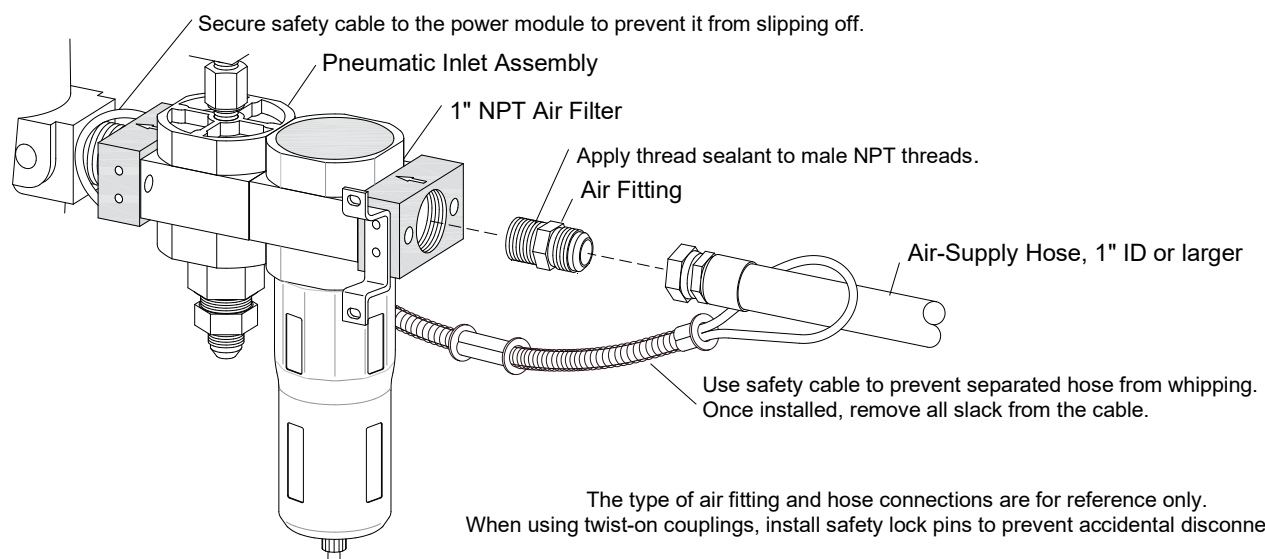

Figure 8
2.3 Connect Compressed-Air Supply Line Figure 8
2.3.2 Apply thread sealant to the male threads of an air fitting that is compatible with the air-supply hose fitting, as noted in Section 2.3.3, and install it onto the 1" NPT air filter (pneumatic inlet assembly) located at the blast machine inlet, as shown in Figure 8. The style of connection shown is for reference only.